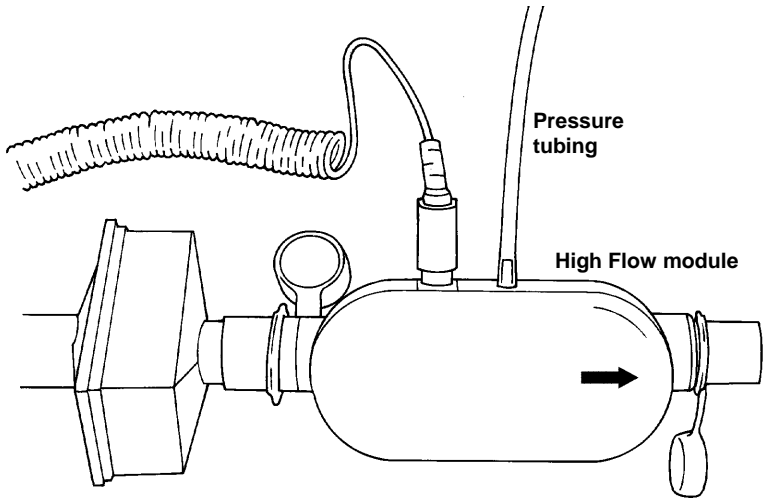

Figure 5. Attaching Pressure Tubing to the High Flow Module
3. High Flow module only: install pressure tubing (**Figure 5**).